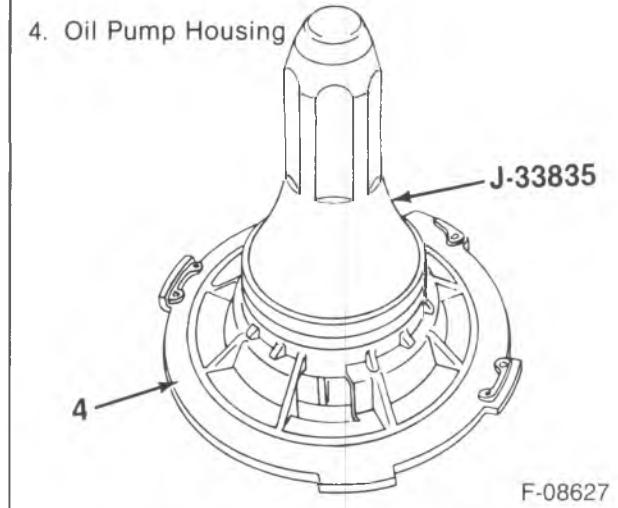

Figure 28—Oil Pump Seal Installation
30. Pump seal (3) in the pump housing (4) using J 33835 (figure 28).
31. Pump housing (4) in the rear retainer (7).
33. Retainer (7) to the case.
34. Retainer bolts (9).